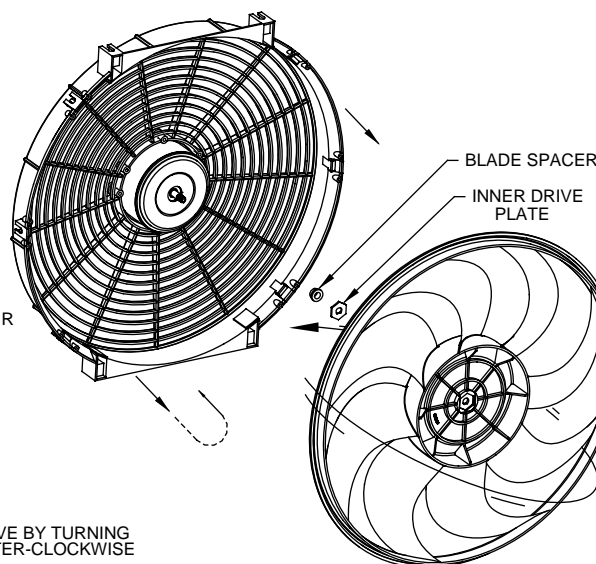

FIGURE 4
2. Carefully pull the blade off the motor shaft. Caution - edges of blade are sharp. Do not try to drive the motor out by impact! This will destroy the motor and void the warranty. Flip the blade, then place back on the unit by lining up the hub center with the motor shaft. Blade will rest on spacers as shown in figure 4. Be very carefull not to loose any of the spacers.